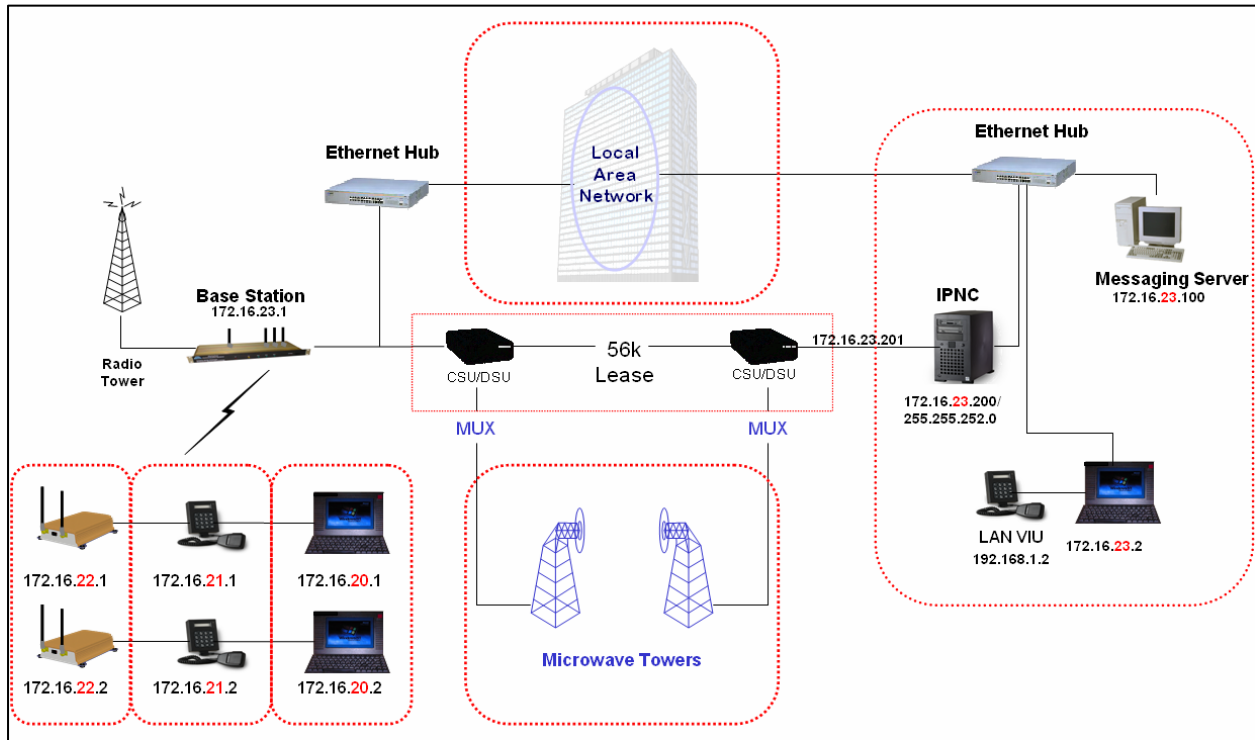

Figure 6: Network Connection to an Existing LAN
Figure 6 depicts a network connection to an existing LAN (local area network) inclusive of one (1) IPNC, one (1) base station, and a range of mobile radios, VIUs (voice interface units), mobile computers, and additional components that interface with this sample system setup. This diagram also shows a LAN VIU.